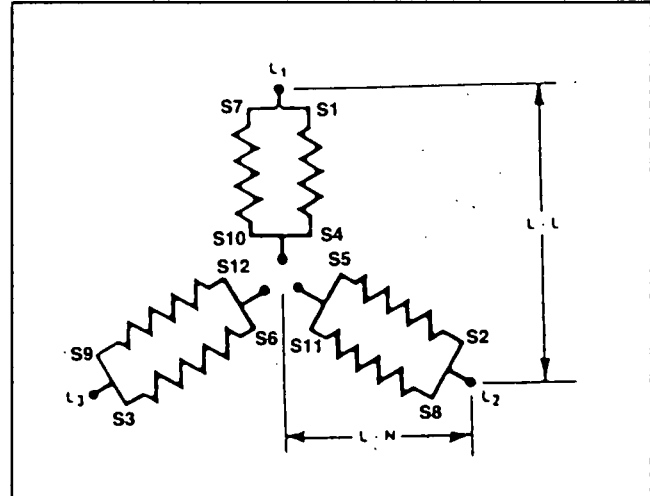

Figure 3. Parallel Wye (Low Wye) Stator
See Figure 3. Parallel (or Low Wye) stators have six windings and twelve (12) leads brought out into the lower panel. This type of stator system can be used to supply the voltages indicated in the following CHART.